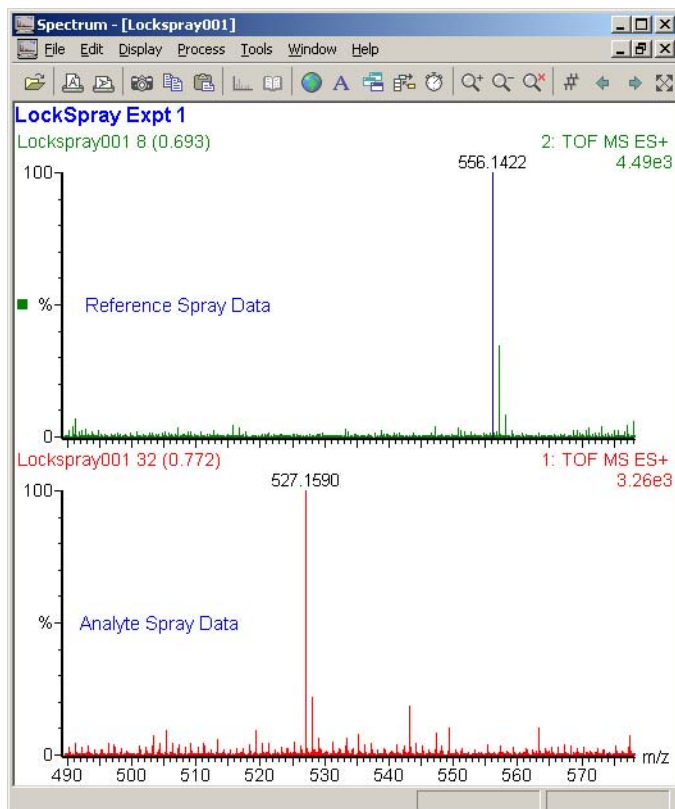

Figure 4-6 Analyte and Reference Spray Data in the Spectrum Window.
13. Double-click in a region of each chromatogram to open up a spectrum for each spray in the Spectrum window (Figure 4-6).
**Note:** Figure 4-6 has been annotated to distinguish between each trace.